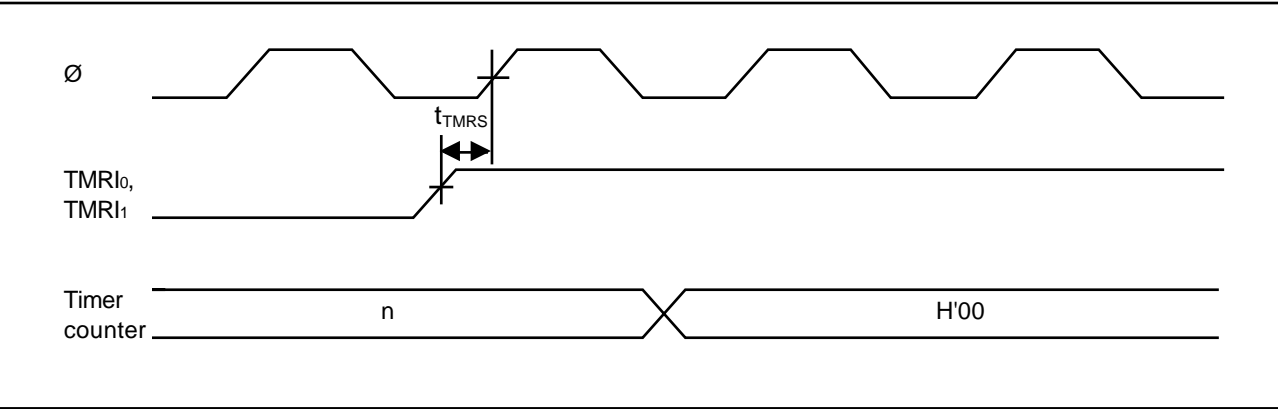

Figure 15-15. 8-Bit Timer Reset Input Timing
15.3.6 SCI Timing	Figures 15-15 to 15-17